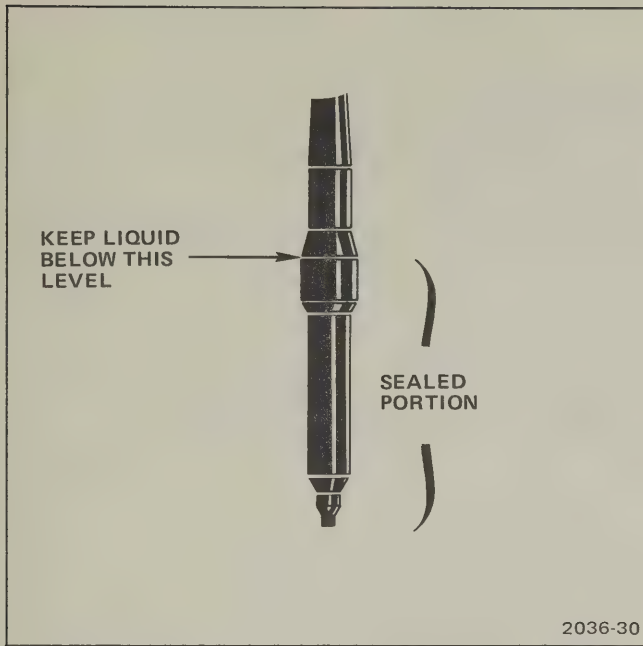

Fig. 3-1. Sealed portion of temperature probe.
- When placing the temperature probe in a solution, keep the level of the solution below the bulge in the probe body (Figure 3-1).